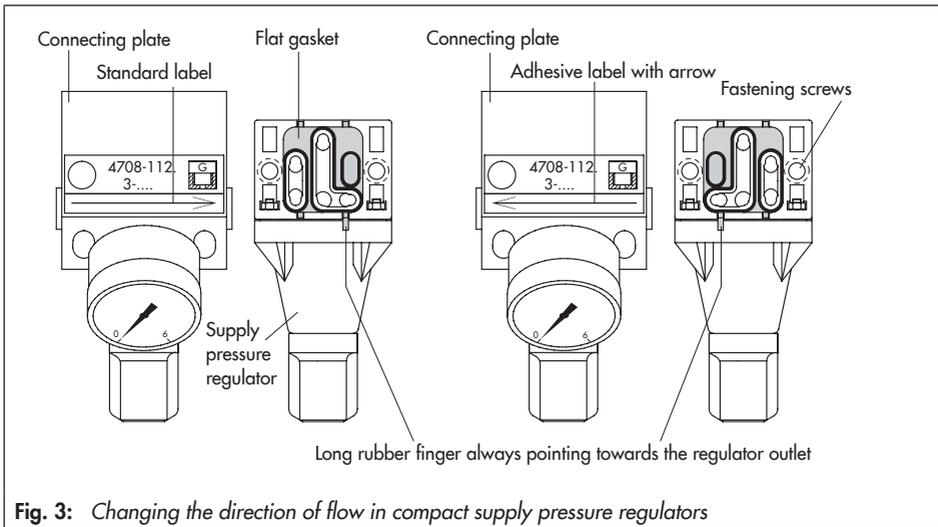

Fig. 3: Changing the direction of flow in compact supply pressure regulators
2. Remove the diverting gasket, turn it 180° and reposition it as shown in Fig. 3.